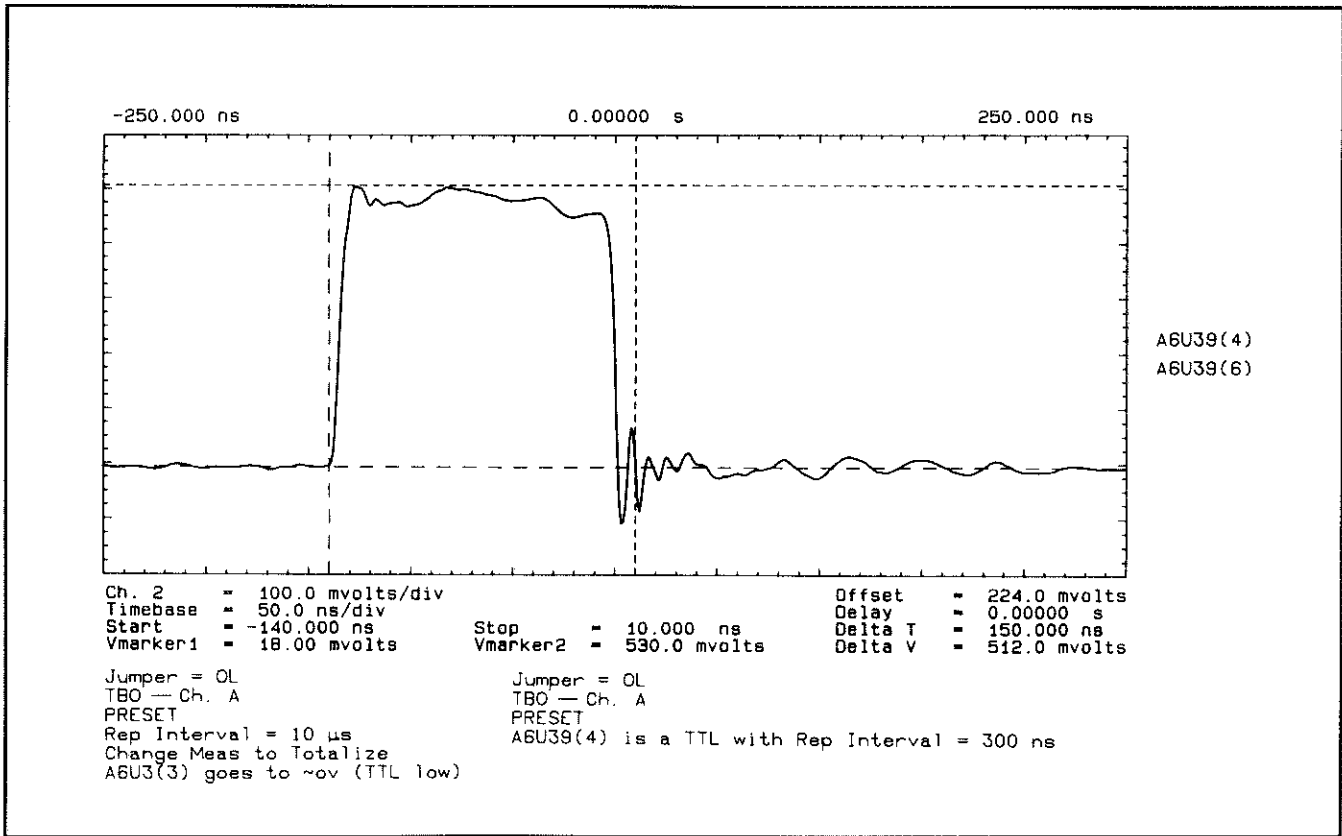

Figure 7F-28. Waveforms at A6U39(4,6)
8. Press PRESET. Observe that signal at A6U39(5) is as shown in *Figure 7F-29*. Change measurement to Totalize, check that A6U39(5) goes to TTL Low.